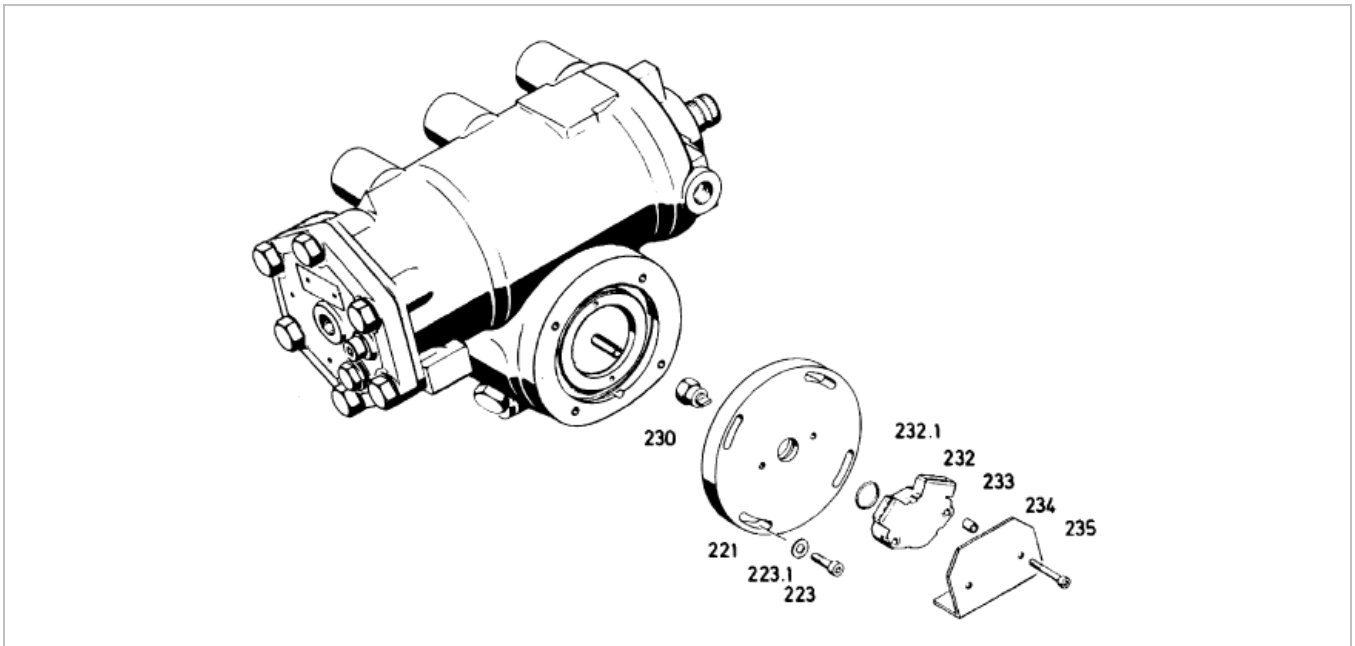

Fig. 18: Replacing the potentiometer
2. Clean the area surrounding the potentiometer (232) (Fig. 18).
3. Mark the position of the potentiometer (232).
4. Unscrew the cap screws (235).
5. Remove the potentiometer (232) along with the screening plate (234), the spacing sleeves (233) and the O-ring (232).